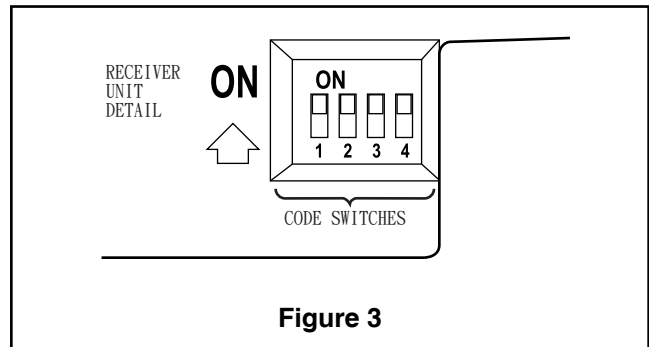

Figure 3
- ☐ 2. Carefully lift the fan and seat the downrod/hanger ball assembly on the hanger bracket that was just attached to the outlet box. Be sure the groove in the ball is lined up with tab on the hanger bracket (Figure 3).
2. To set the receiver unit code, slide code switches to the same positions as set on your transmitter (Figure 3).